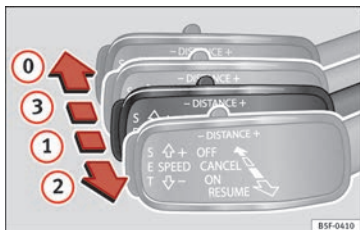

Fig. 154 On the left of the steering column: third lever for operating the Adaptive Cruise Control.
The ACC can be activated again by moving the lever to position ② » Fig. 154.